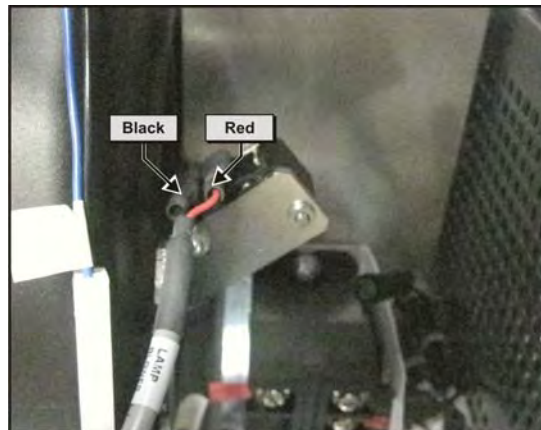

Figure 5-62 Blower Switch Leads
2. Remove the black and red leads. **(Figure 5-62)**